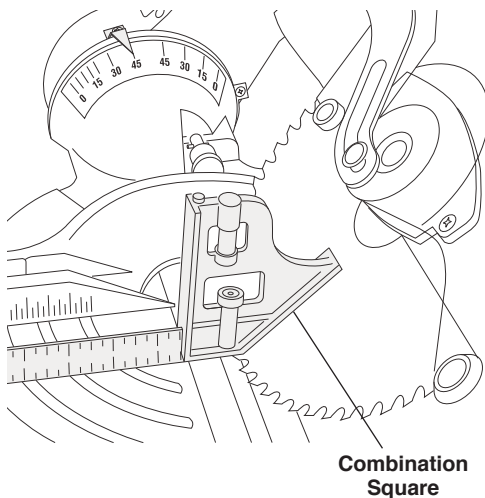

Figure 7. Right 45° Bevel Stop
the 45° stop. Place the combination square head on the table and press its 45° surface against the blade. If the blade does not contact the full length of the square, (figure 7), follow the calibrating procedure.
3. Position combination square with 45° surface against blade. (Figure 7)